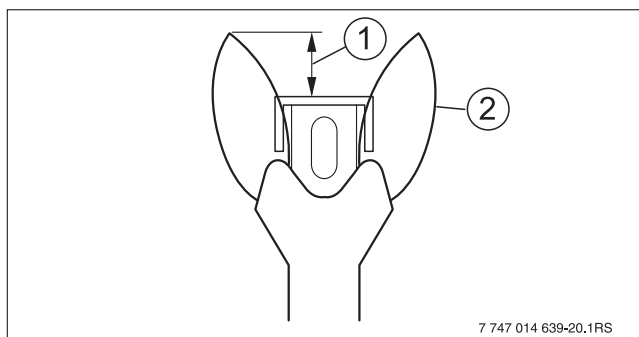
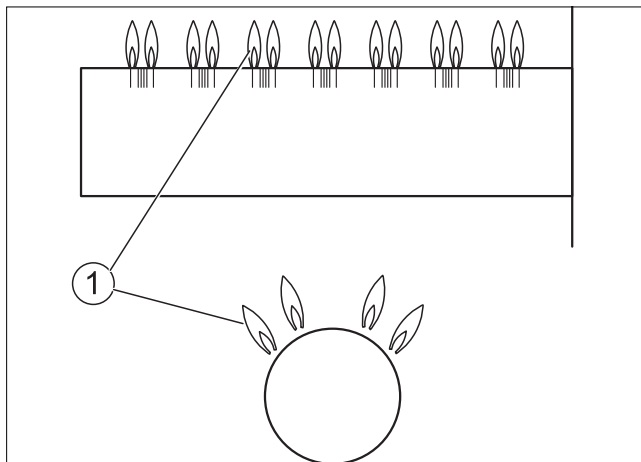

Fig. 24 Correct ignition flame setting
Fig. 25 Main burner
19. Check the safety switch by closing the gas shutoff valve. The main burner flame (→ Fig. 25) and the ignition flame (→ Fig. 24) are extinguished. After no more than six (6) seconds, the main gas solenoid valve on the gas valve must close with an audible noise.